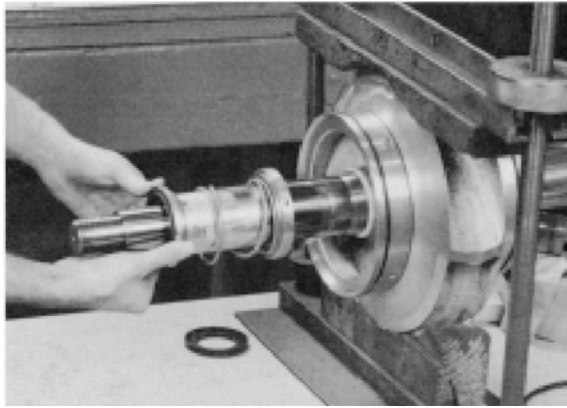

FIGURE 50 – UPPER CASING HALF REMOVED
26. Set the rotating element in the pump casing (2-001-0), assuring correct rotation. Locate both stuffing box tongues in their respective casing grooves. Locate pins (3-943-9) in the stuffing box and the casing wear rings in their respective slots at the casing parting surface. Correct any O-ring bulging (See Figure 50).